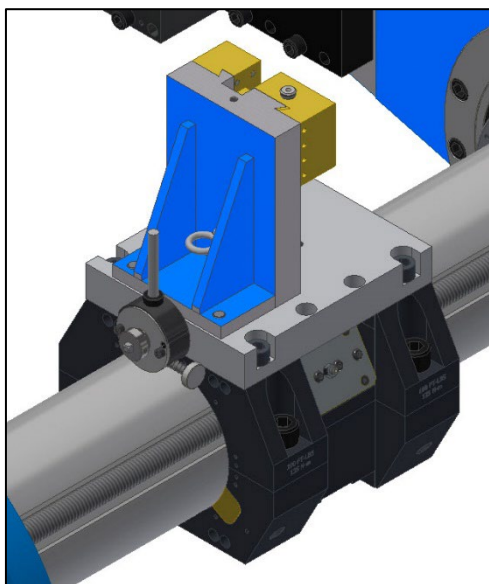
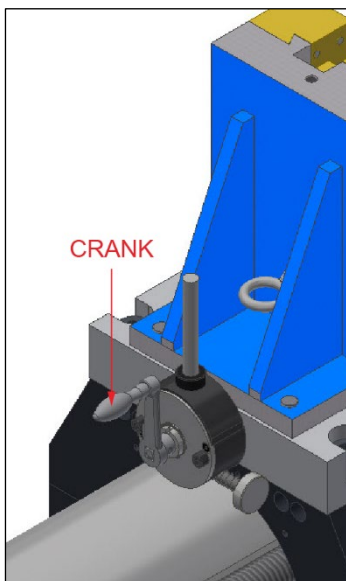
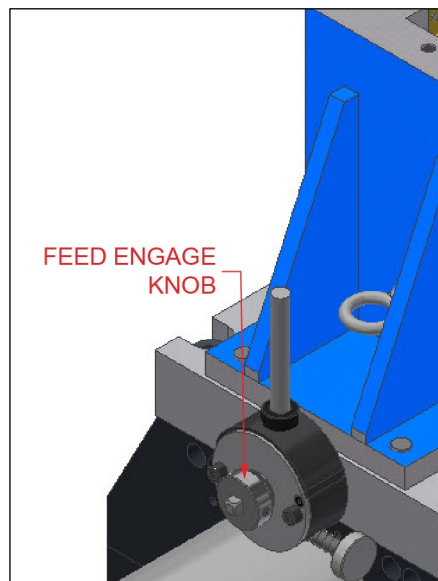

Figure 27. Facing head mounted directly to the tool carrier
Figure 30. Facing head directly mounted with straight crank handle attached
Figure 31. Facing head directly mounted with feed engagement knob attached
- a) If no spacers are being used (see Figure 27), use the straight crank handle and feed engagement knob to make manual adjustments and engage the auto feed (see Figure 30 and Figure 31 on page 38).